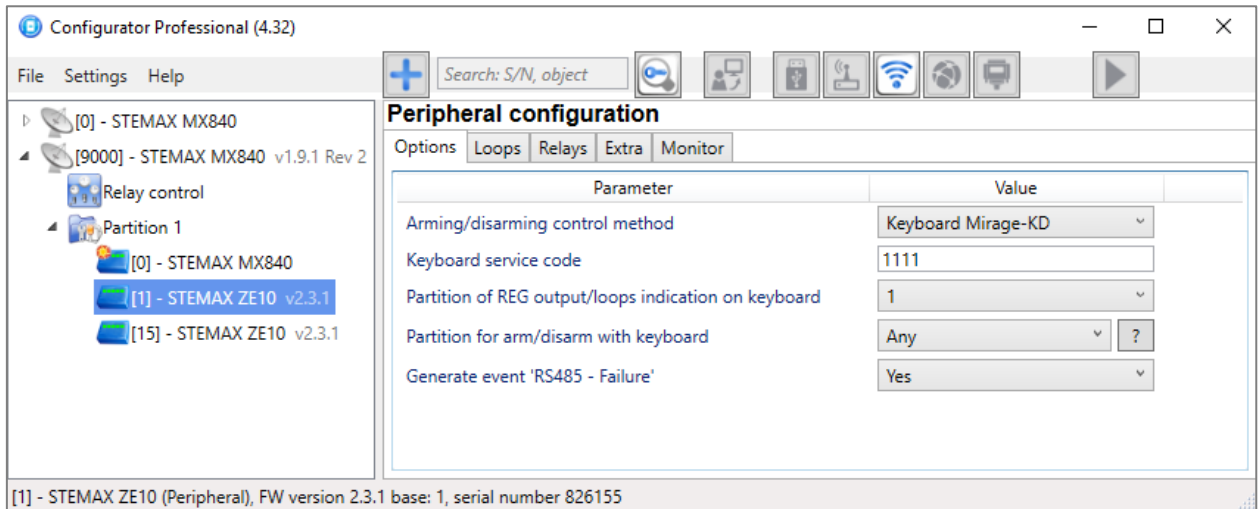

Figure 4.4. Expander configuration, *Options* tab
- *Keyboard Mirage-KD*: if a STEMAX-KD series keypad by NPP «Stels» is connected to the expander (see figure 4.4).